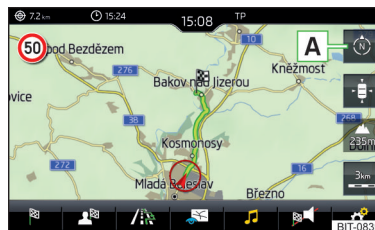

Fig. 225
- ▶ To **change the map orientation**, go to the *Navigation* main menu and tap on function surface  **A** » Fig. 225.